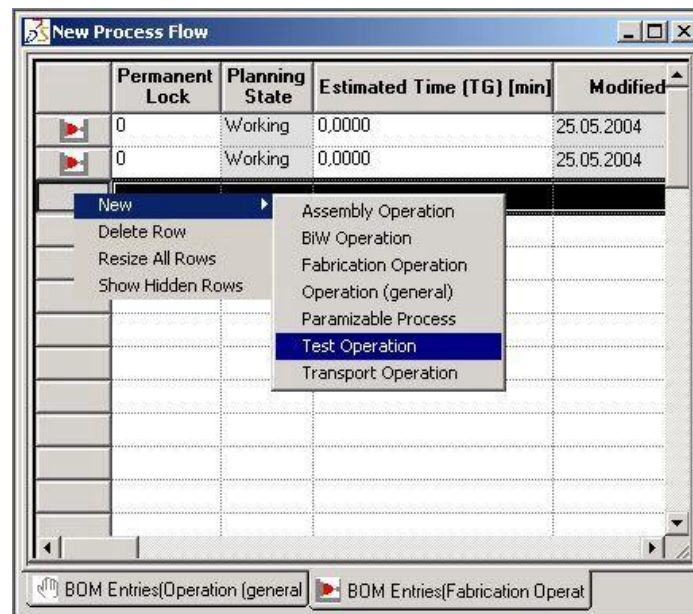

Figure 153: Create New Object – with Configured Plantypes
You can open a table only on a node, which has been assigned a further hierarchical structure. This structure can be made up of different plantypes which are independent of the plantype set used in the project. In the context menu of the table view (context menu for a line), the configured plantypes for which you can create new objects are shown. *Please refer to the Figure 153.*
- 3) Select **New** and then select the corresponding plantypes. In Figure 153, the plantype Test and measuring operation is shown. The new object is immediately shown in the table.